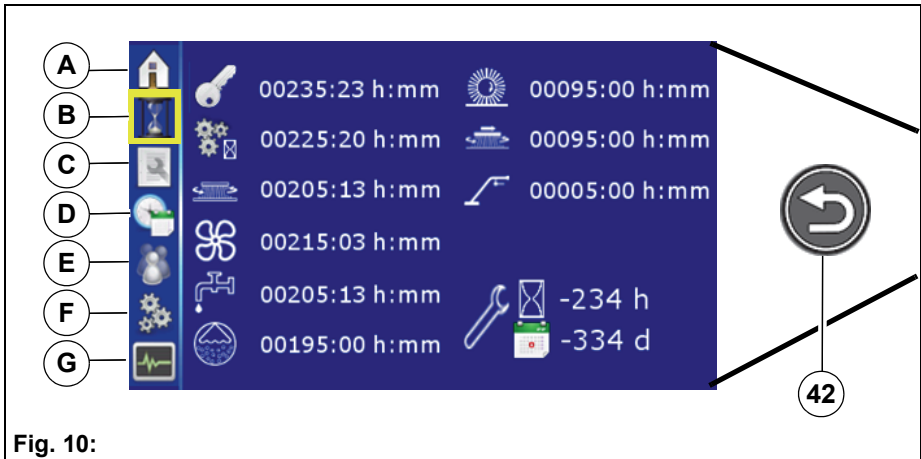

Fig. 10:
- the soft key *Home* **Fig. 10-A** or
<p>Operating hours meter menu Fig. 10-B</p>
<p>Maintenance menu Fig. 10-C</p>
**Maintenance menu Fig. 10-C continued**
**Time/Date menu Fig. 10-D**
**User settings menu Fig. 10-E**
Configuration menu Fig. 10-F
Service information menu Fig. 10-G